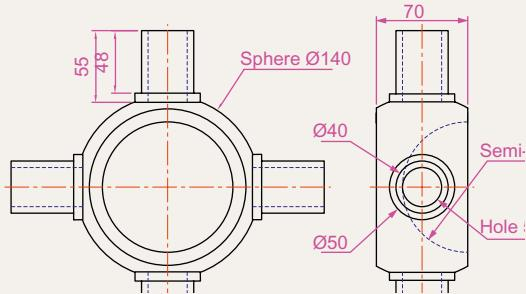
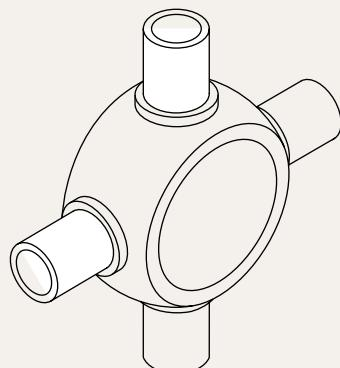

Fig. 13.15 Exercise 2 – working drawing
Fig. 13.16 Exercise 2
2. Using the tools **Sphere**, **Box**, Union and **Subtract** and working to the dimensions given in Fig. 13.15, construct the 3D solid model as shown in the isometric drawing Fig. 13.16.